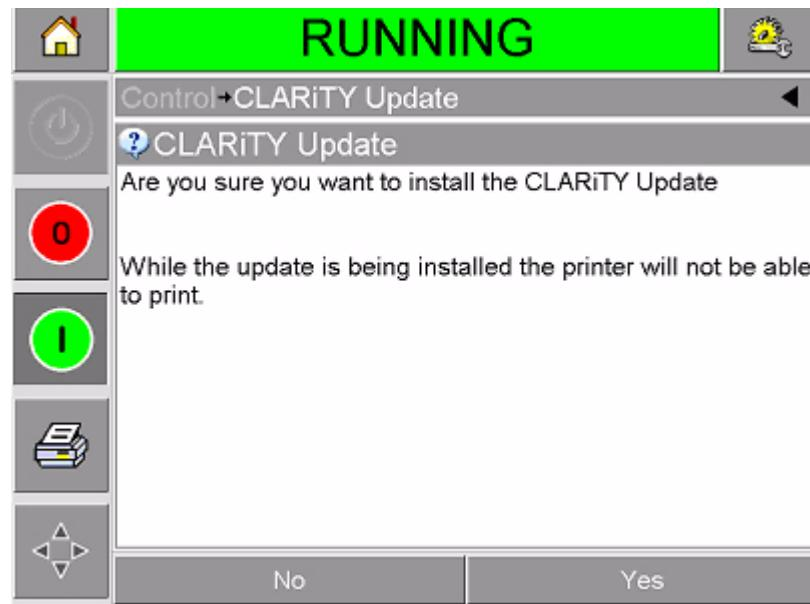

Figure 5-94: CLARiTY® Confirmation Page
- 6 Touch OK, a confirmation page appears (Figure 5-94).